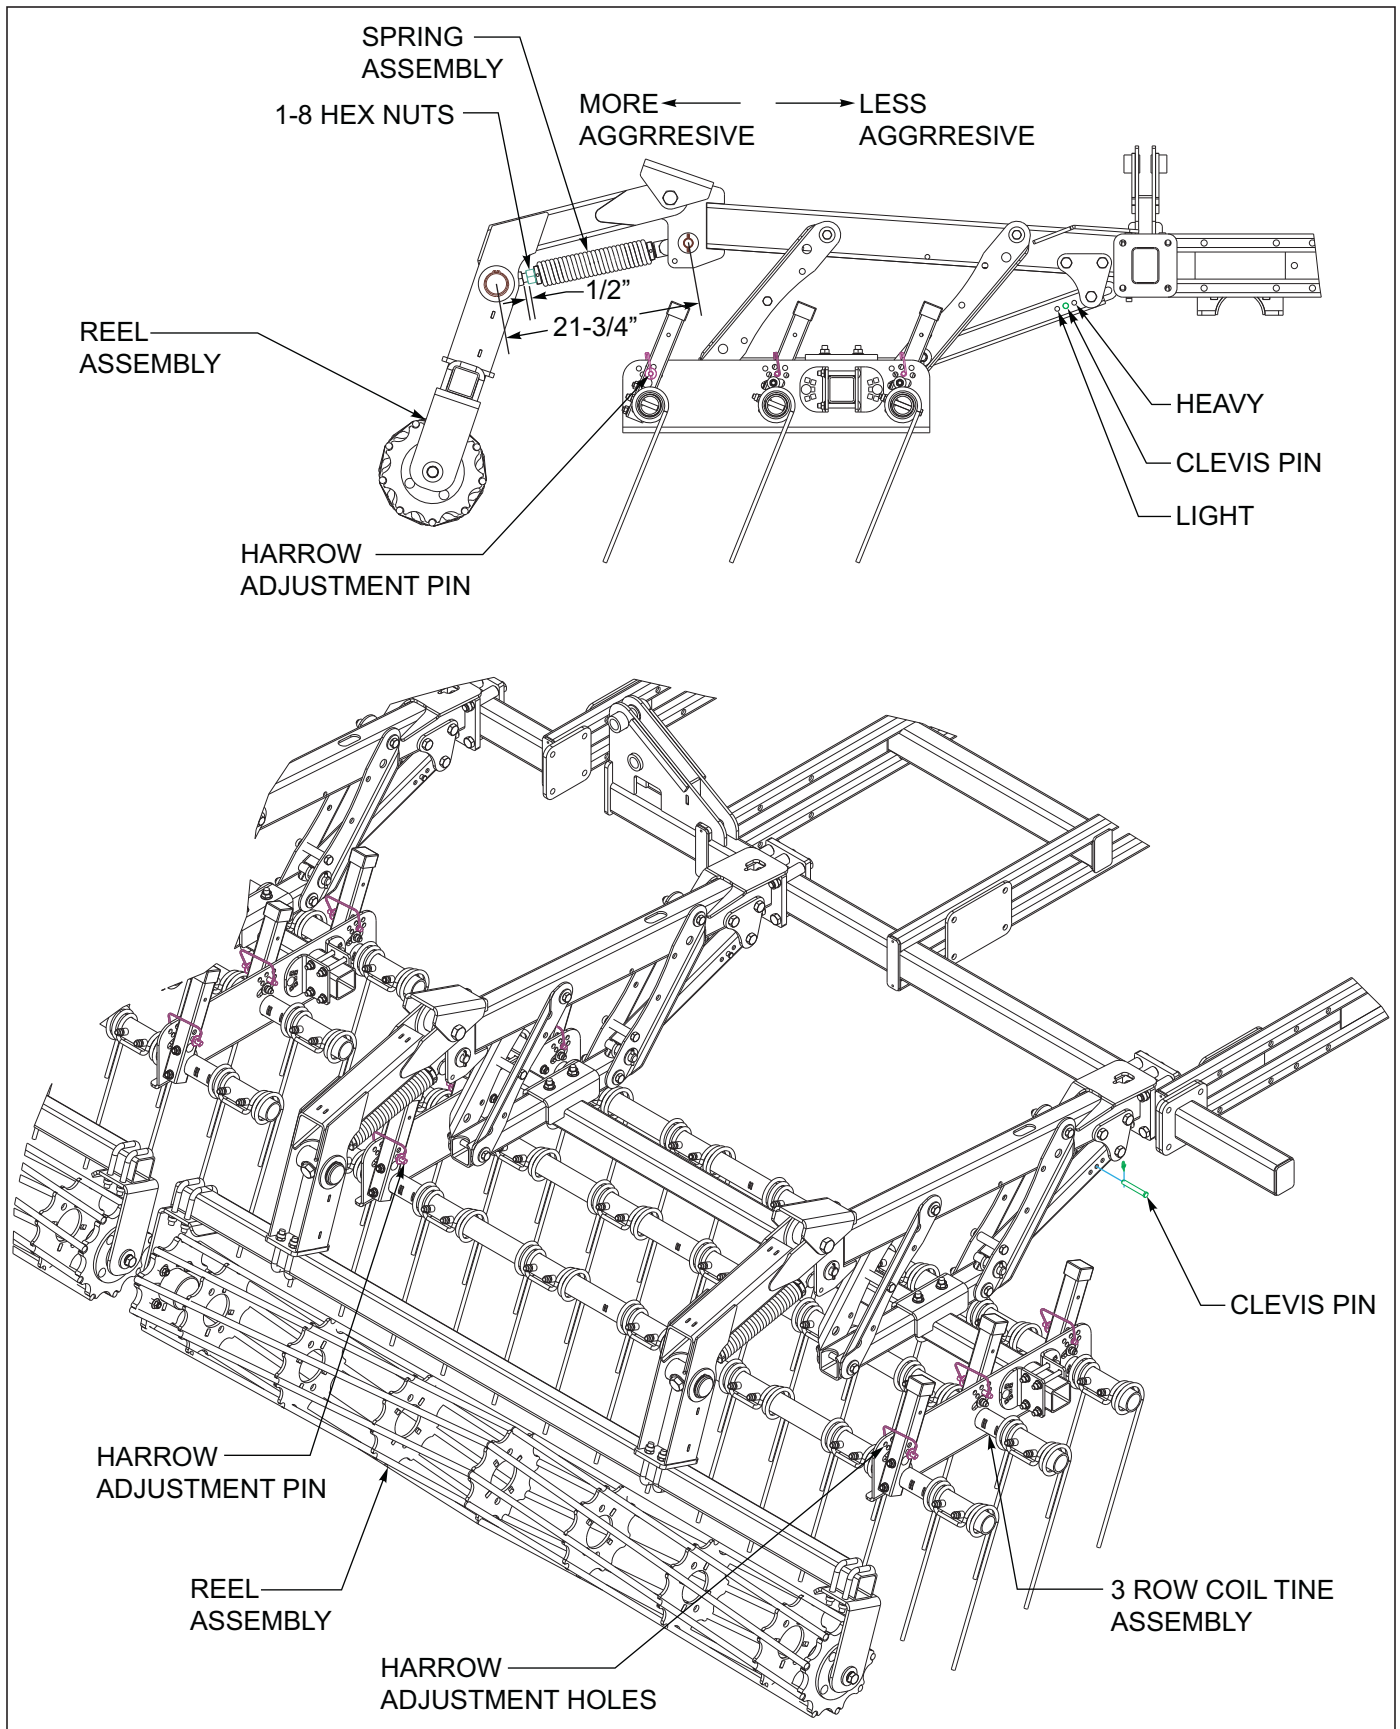

Figure 4-14: 3 Row Coil Tine and Reel Adjustments
3. In general tine harrows have better capabilities for handling more residue and wetter conditions. When operating the coil tine harrow, a more vertical tine tooth angle will make the harrow more aggressive. A lower/flatter tine angle will make the harrow less aggressive but will handle more residue and wetter conditions. To change the tine angle, raise the harrow off the ground. Remove the harrow pin from both angle adjustment tubes per tine gang bar tube See Figure 4-14. Rotate the angle adjustment tubes forward (less aggressive) or rearward (more aggressive) and reinstall both spring clip pins. Repeat the tine adjustment for each tine gang bar tube and harrow section.
4. Each coil tine harrow may be adjusted for spring pressure as well See Figure 4-14. Raise the tine harrow off the ground. Remove the clevis pin from the spring tube and install in a heavy or light setting as needed. **Excessive spring pressure and tine angle can overload harrow spring.**
5. To adjust the reel height, loosen the locking hex nut against the threaded spring end See Figure 4-14.